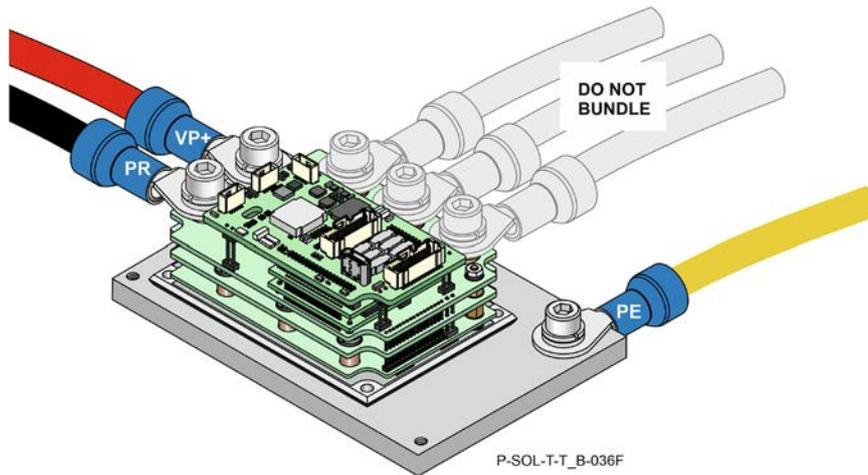

Figure 13: Connecting the Main Power Wires
3. Connect the VP+ and PR wires to the terminals on the servo-drive as shown in Figure 13. It is highly recommended to twist the two DC main power cables at intervals of 10 cm.